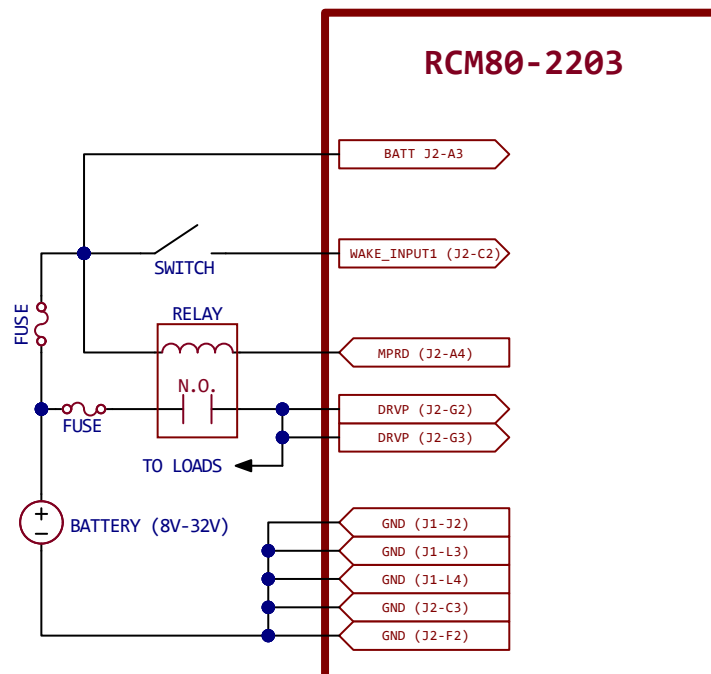

Figure 2: Input Power Wiring Diagram
**Note: The BATT+ supply must be from a fused source as shown in Figure 2.**